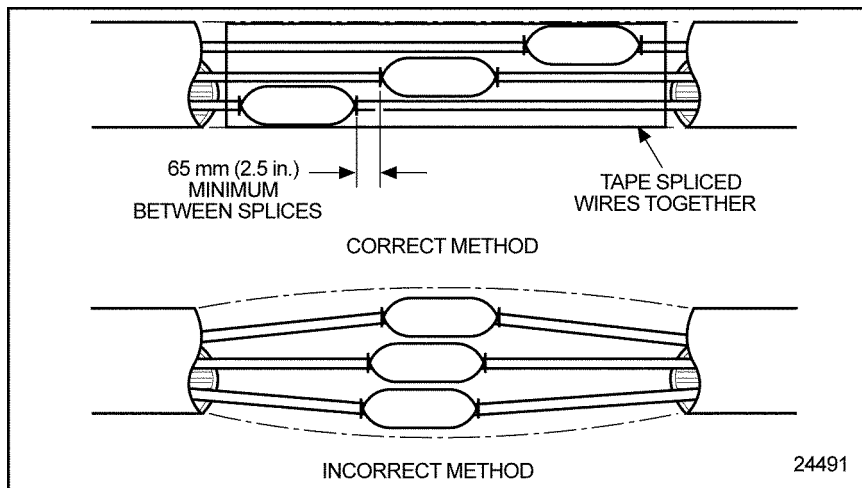

Figure 17-19 The Correct and Incorrect Method of Staggering Multiple Splices
1. Stagger the position of each splice (see Figure 17-19) so there is at least a 2.5 in. (65 mm) separation between splices.